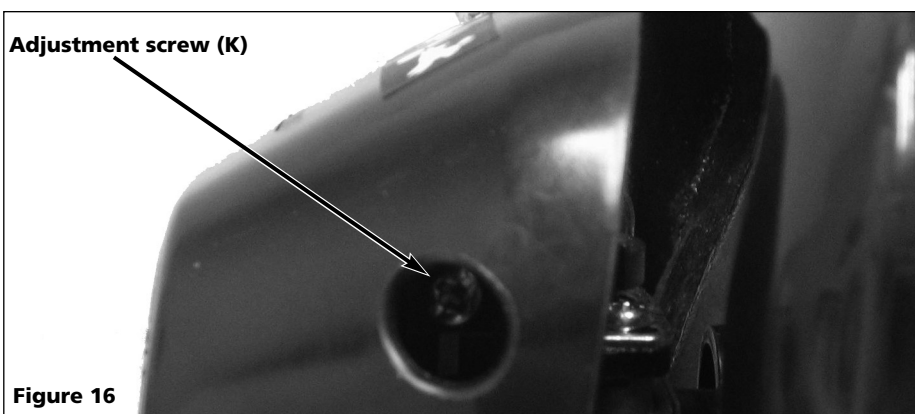

Figure 16
Locate the idle adjustment screw (K) on the carburetor (See Figure 16).